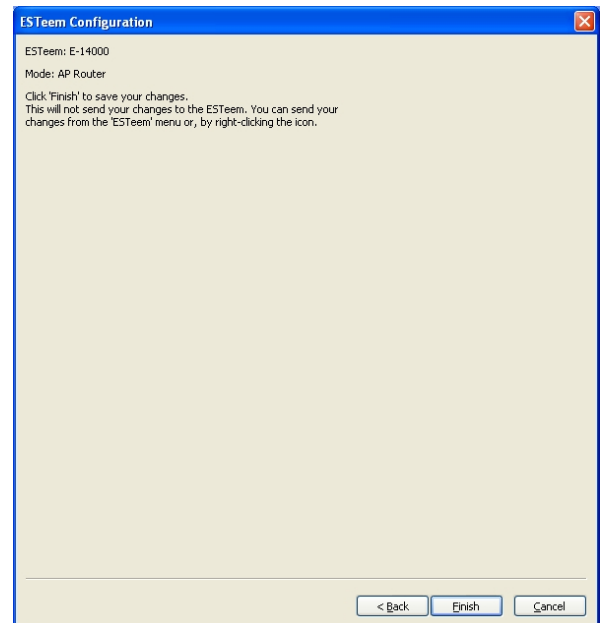

Figure 22: ESTeem Summary Page
5. Continue through the configuration screens setting the AP Router addressing to match the IP address ranges for your network. For help with setting the router addressing please refer to Router Address Examples later in this chapter. You will end on the screen in Figure 22. Press the Finish button to return to the configuration page.